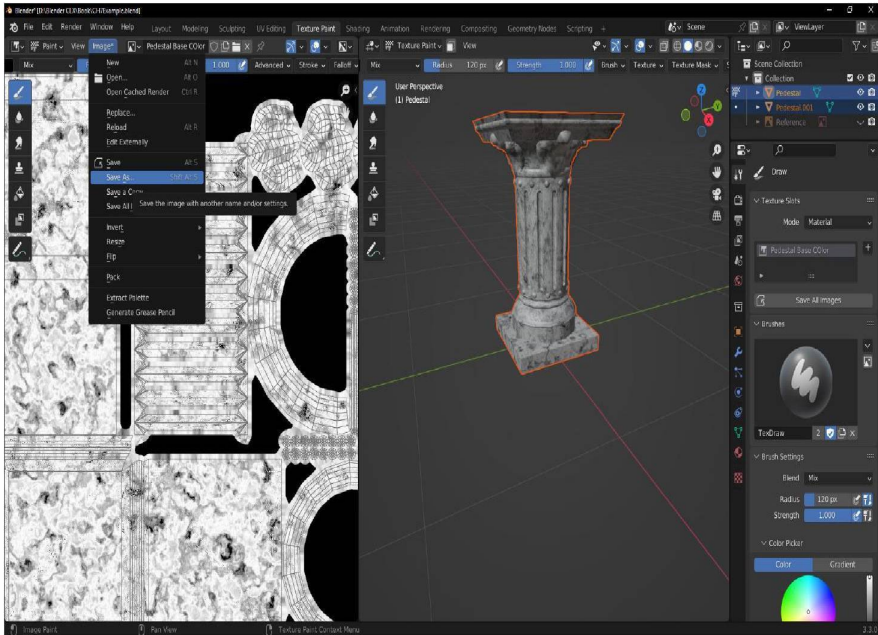

Figure 7.22: Saving the baked Base Color image externally via the Texture Paint Workspace
38. To save our new Marble Base Color image, let's switch to the Texture Paint Workspace from the top-most menu of the Blender application, and in the left-hand panel, we should see the **Image Editor** window displaying our newly baked texture as shown in *Figure 7.22*.